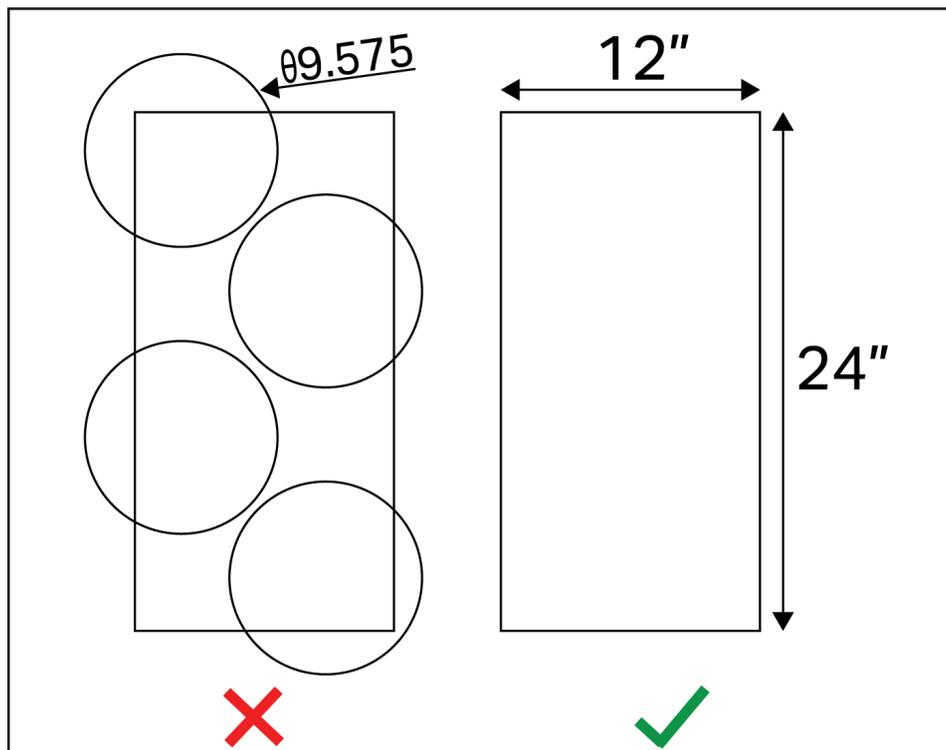

Figure 23: Custom plastic parts must fit within a single 12" x 24" sheet of plastic.
- i. A collection of parts which theoretically have a total surface area of 288 in², but cannot be nested onto a single 12" x 24" sheet, would not be legal. See Figure 23.